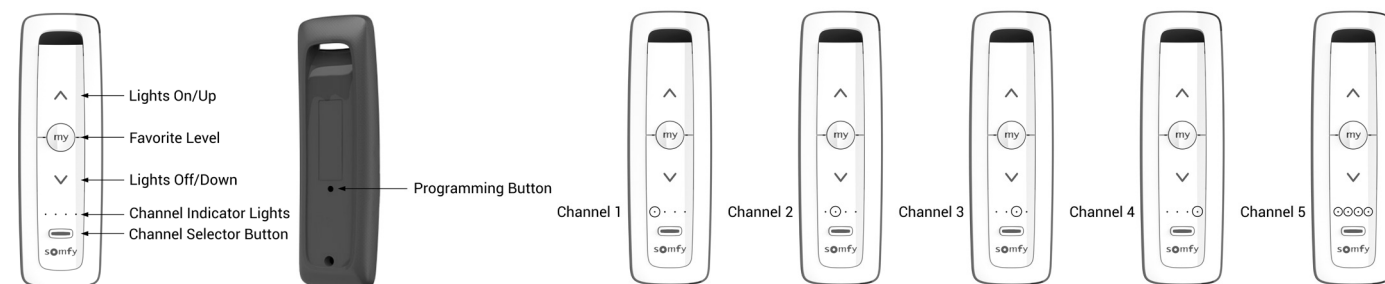

Figure 14
1. Set the remote to operate on channel 1 (see Figure 14).
3. Press the UP and DOWN buttons on the remote (see Figure 14) at the same time until the LED Light strips blink slowly.
4. Press the programming button on the back of the remote (see Figure 14) until the LED Light strips blink slowly.
1. Set the remote to operate on channel 2 (see Figure 14).
4. Press the UP and DOWN buttons on the remote (see Figure 14) at the same time until the LED Light strips blink slowly.
5. Press and hold the programming button on the back of the remote (see Figure 14) until the LED Light strips (mounted on the awning) blink slowly.